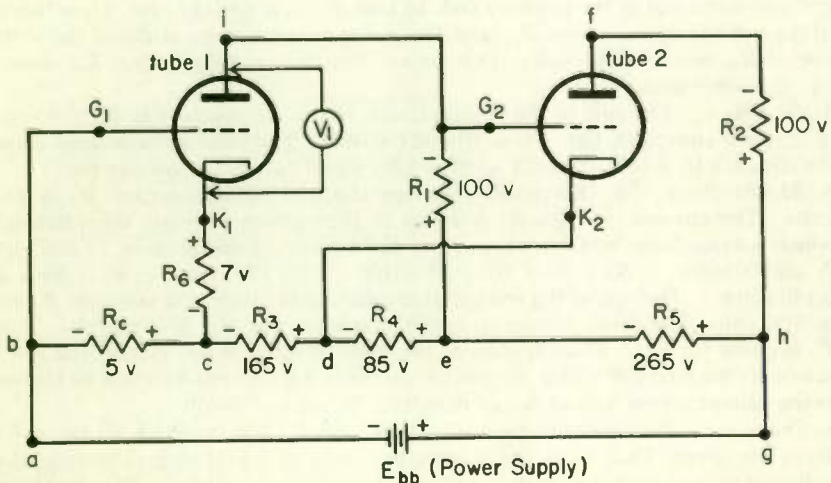

Fig. 29
20. In Fig. 29 the plate voltage (that is, the voltage between cathode and
21. Voltmeter V_1 in Fig. 29 will read _____ volts.
22. The grid bias voltage (voltage between grid and cathode) for tube 1 in Fig. 29 is (a) _____ volts, with the grid (b) *(negative)* *(positive)* with respect to the cathode.